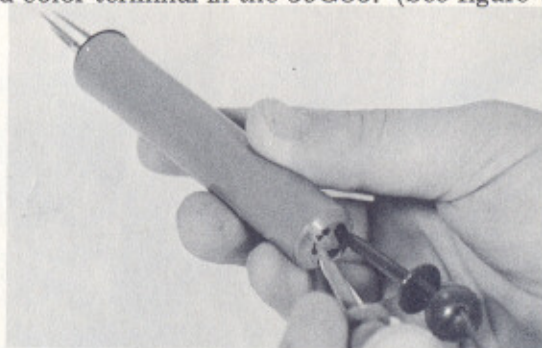

Fig. 7 Making Connections to 39G85 Touch Test Probe
1. Connect each E-Z Hook® test lead from the TF40 to the matched color terminal in the 39G85. (See figure 7)